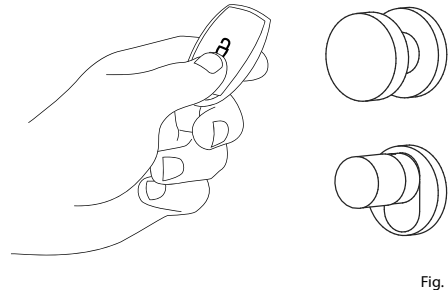

Fig. 1
- 1 Hold the sE-Key within the Bluetooth range of the cylinder (max. 4m) in the direction of the cylinder and press the surface of the transponder (Fig. 1).